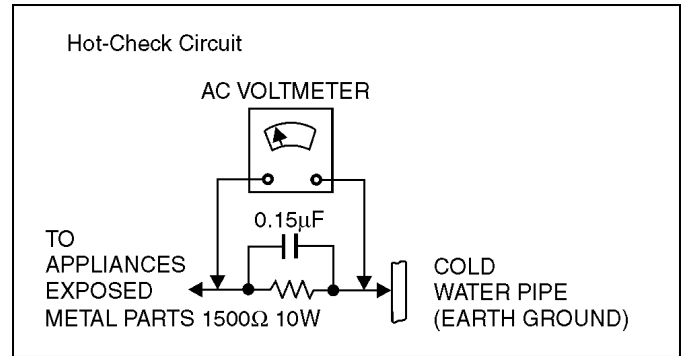

Figure 1
2. Connect a 1.5k $\Omega$ , 10 watts resistor, in parallel with a 0.15 $\mu$ F capacitors, between each exposed metallic part on the set and a good earth ground such as a water pipe, as shown in Figure 1.